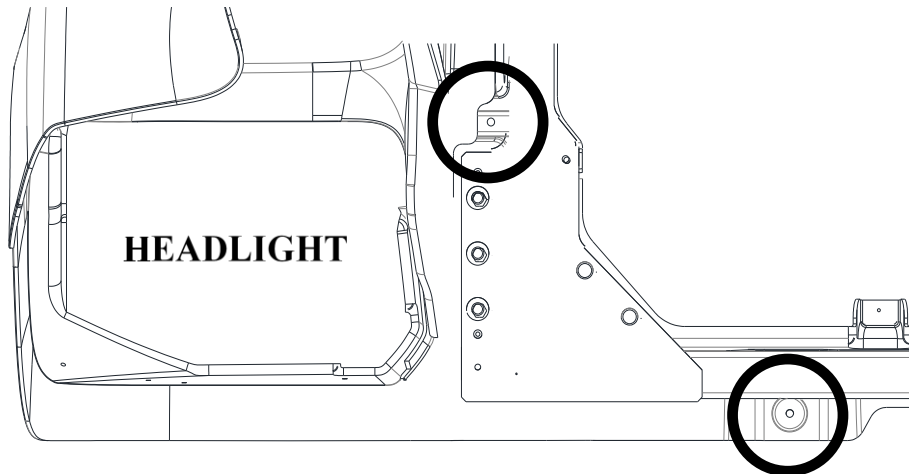

Fig. 2
3. Open the hood and loosen off the two nuts shown in (Fig. 2) until you can easily slide the fender guard behind the grille surround. Note that (Fig. 2) is showing the inside of the hood on the driver side.